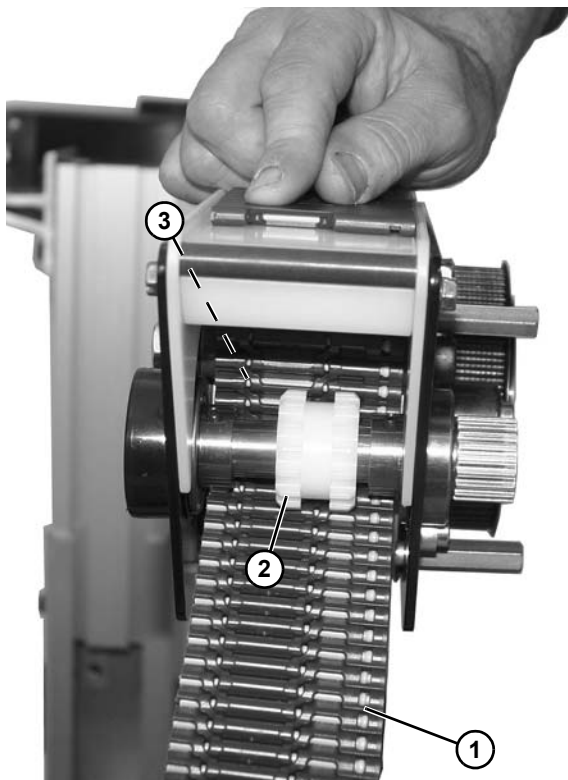

Figure 173
6. Guide belt (**Figure 173, item 1**) through idler assembly with belt routing under gear (**Figure 173, item 2**) and over wear tube (**Figure 173, item 3**).